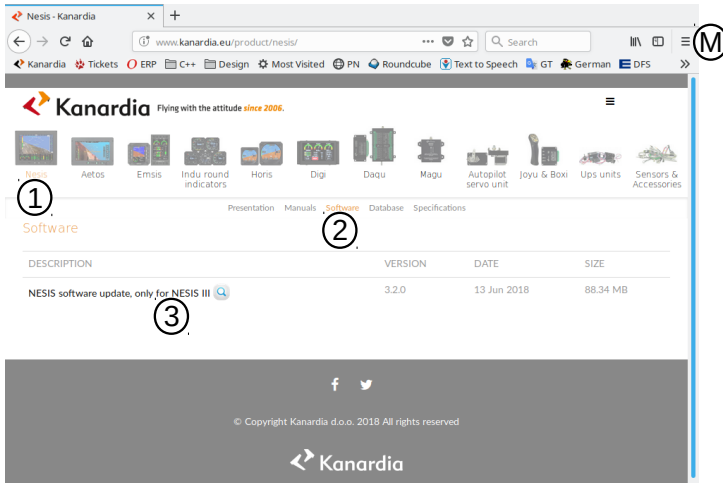

Figure 43: Illustration of the Aetos software download page. Usually only latest update is available.
- ① Open the home page and select *Aetos* icon on the top. This leads to Aetos specific page.
- ② Select *Software* next. This opens a page with Aetos specific software. An example is shown on Figure 43.
- ③ Click on the link to start download process of selected software file. Before downloading the software, a window appears asking for your email address. This is optional. Download will be completed also if address is not given.
1. Click on the \equiv menu symbol. See label (M) on Figure 43.